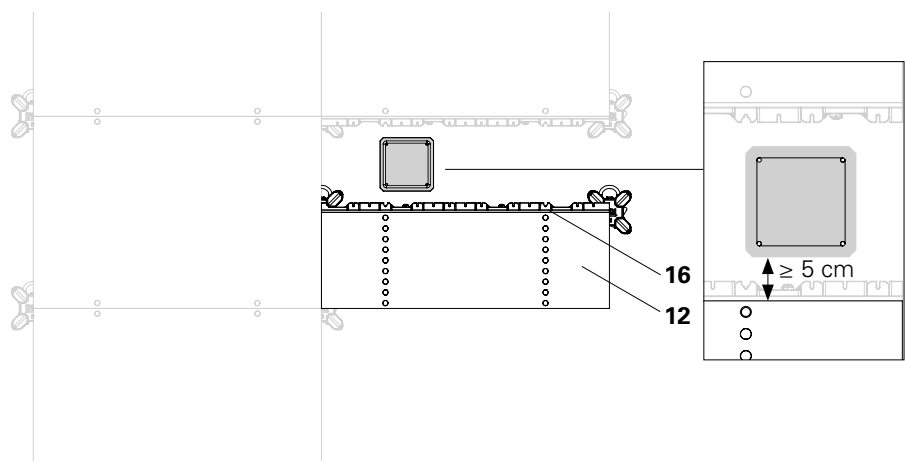

Fig. D3.07
7. Repeat steps 2 to 6 on the opposite column side. (Fig. D3.07)